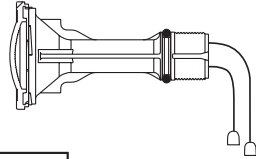

Figure 19.
1. When replacing the bulb assembly, make sure to use the correct bulb assembly unit, AquaLuminator **OR** AQL 500, see Figure 19. The bulb assemblies are **NOT** interchangeable. *Wrong bulb assembly will permanently damage light.*
- Connect the wire connectors from the bulb assembly to the wire connectors attached to the snap-on cord cap. Make sure to use the correct bulb assembly unit, AquaLuminator **OR** AQL 500, see Figure 19. The bulb assemblies are **NOT** interchangeable. *The wrong bulb assembly will permanently damage light.*